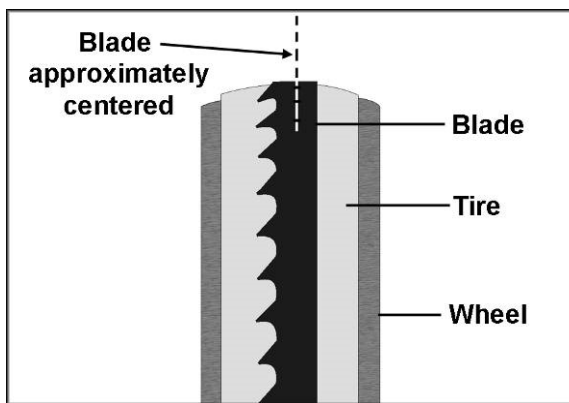

Figure 16
3. Open upper front door to expose the upper wheel. Rotate the wheel clockwise by hand, and observe the position of the blade on the wheel. The blade should ride upon the center of the wheel (Figure 16).